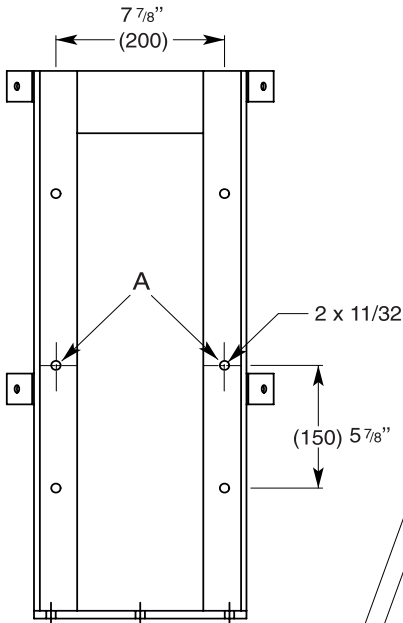

Fig. 7
1. Use the measurements drawn in (Fig. 7) to locate and drill (2) 11/32" holes in the tank mounting bracket (pos A).